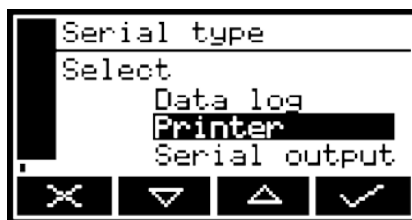

Figure 39 - The Serial type select screen
2. If the option shown on the Serial type screen is not the required option, press the  soft key; the Serial type select screen will then be displayed (see Figure 39).